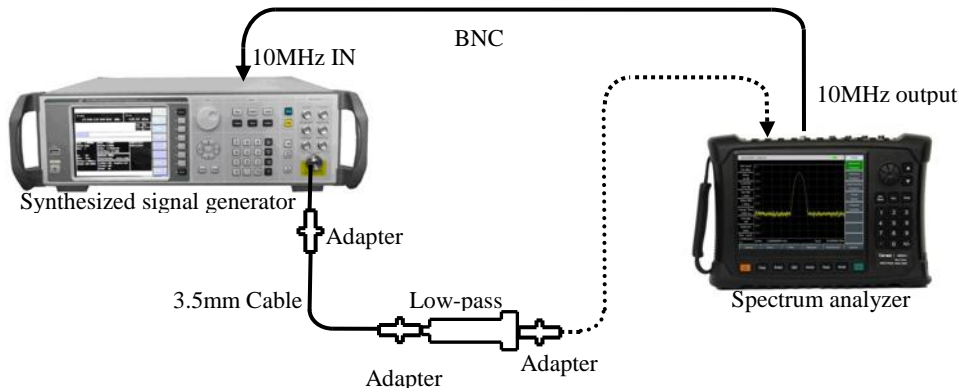

Fig. 12-9 Setting of Second Harmonic Distortion Test
- 1) Connect the test instrument as shown in Fig. 12-9. The spectrum analyzer will provide the 10MHz frequency reference for the synthesized signal generator. Use the 1GHz low-pass filter.
- 7) Connect the test instruments as shown in Fig. 12-9. Use the 6.8GHz low-pass filter.
- 13) Connect the test instruments as shown in Fig. 12-9. Use the 18GHz low-pass filter.